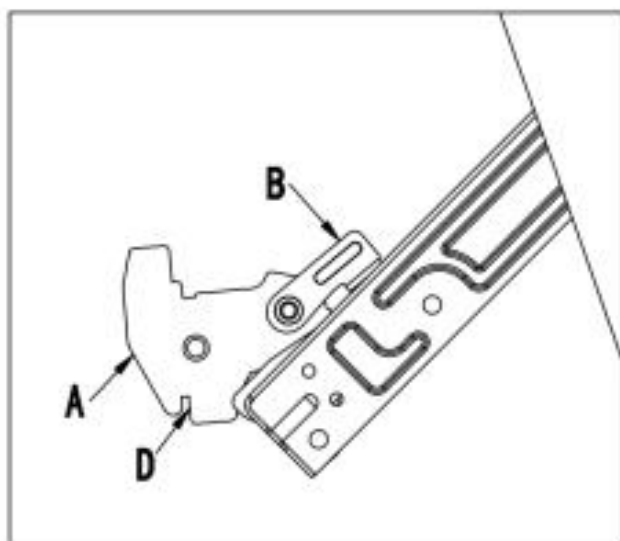

Fig.11
- ❖ Open the door completely and lift the 2 levers “B” (Fig.11);